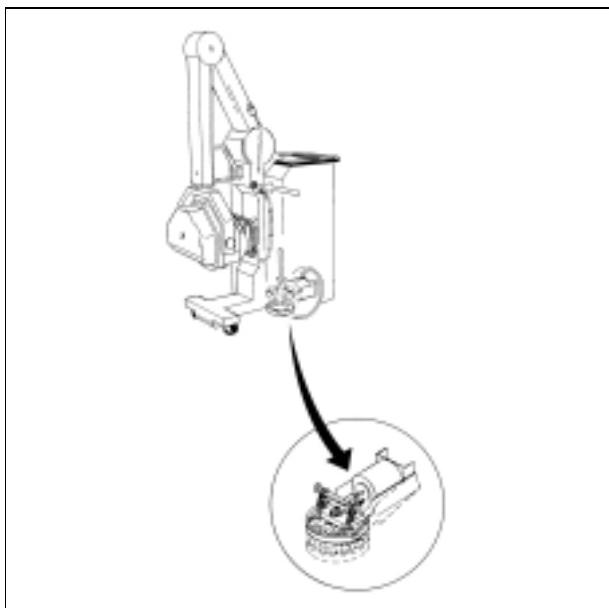

Fig. 6
- Check that the unit can rotate around the turn plate, see Fig. 6.